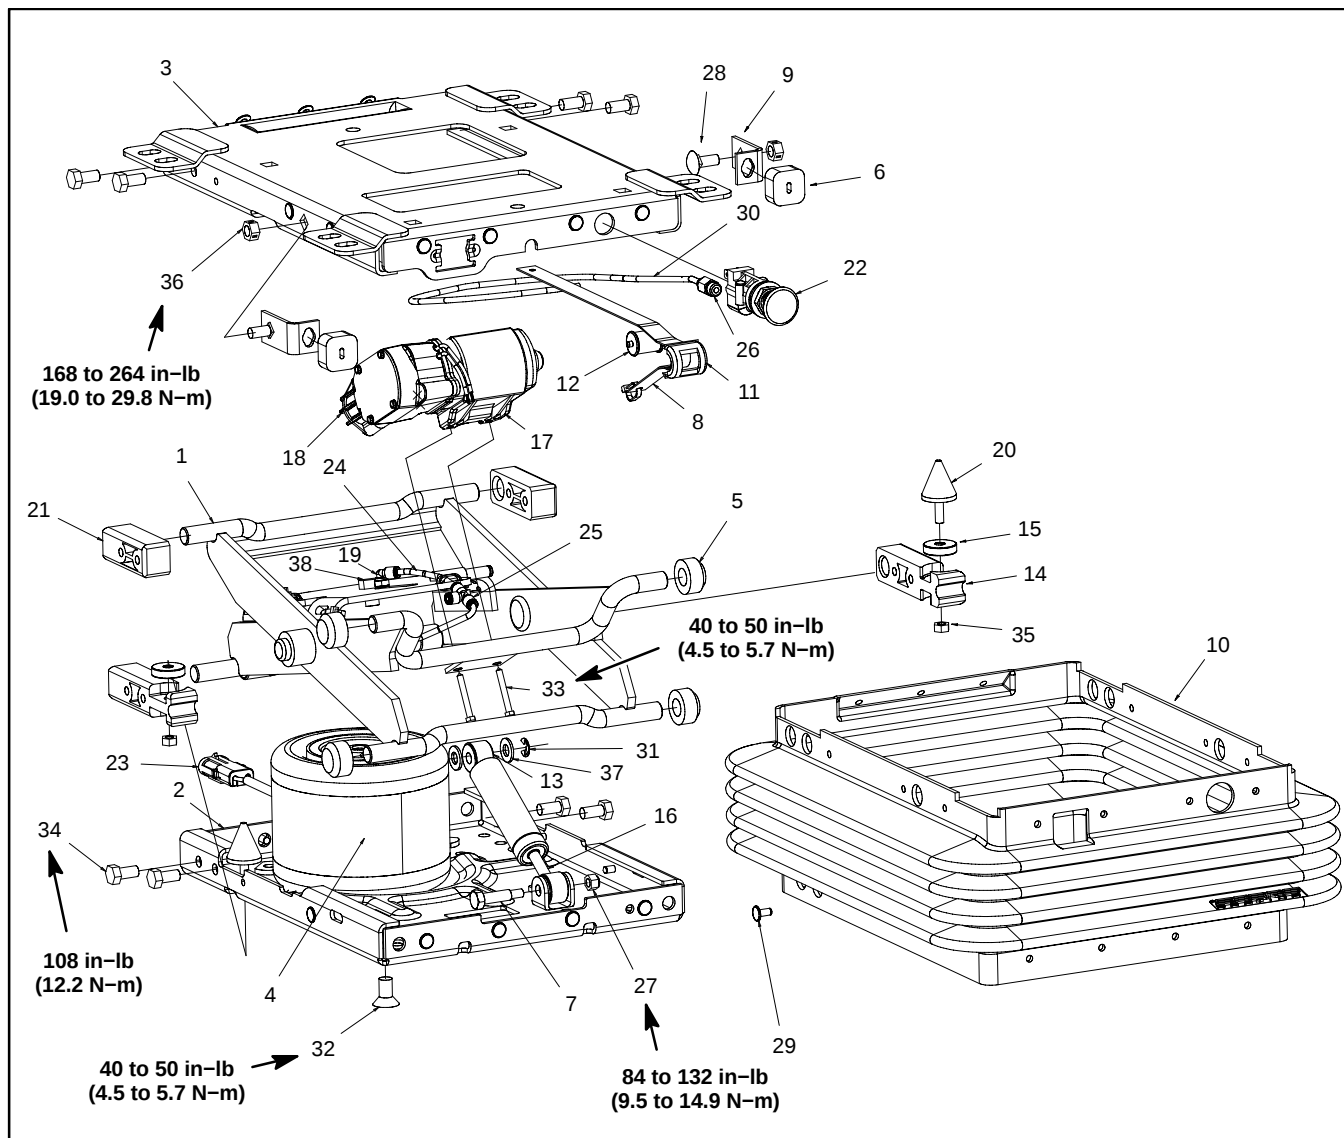

Figure 11
Removal (Fig. 11)
3. Remove pneumatic seat suspension components as necessary using Figures 11 and 12 as guides.
Installation (Fig. 11)
1. Install pneumatic seat suspension components using Figures 11 and 12 as guides. Refer to Figure 11 for fastener torque values for assembly purposes.